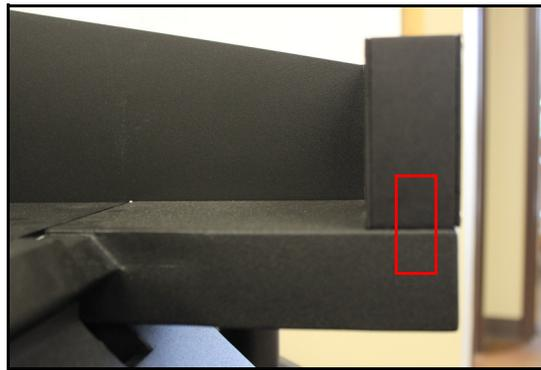

Figure 60
2. Place one seal on each sensor (three total) as shown in Figure 60.